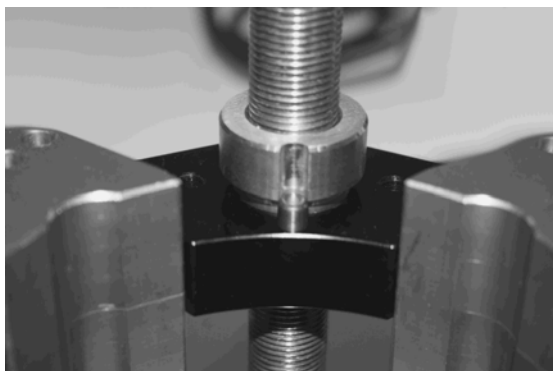

Figure 15
5. Slide the carriage back up ensuring the dowel pin in the carriage aligns with the slot in the carriage nut. (Figure 15)